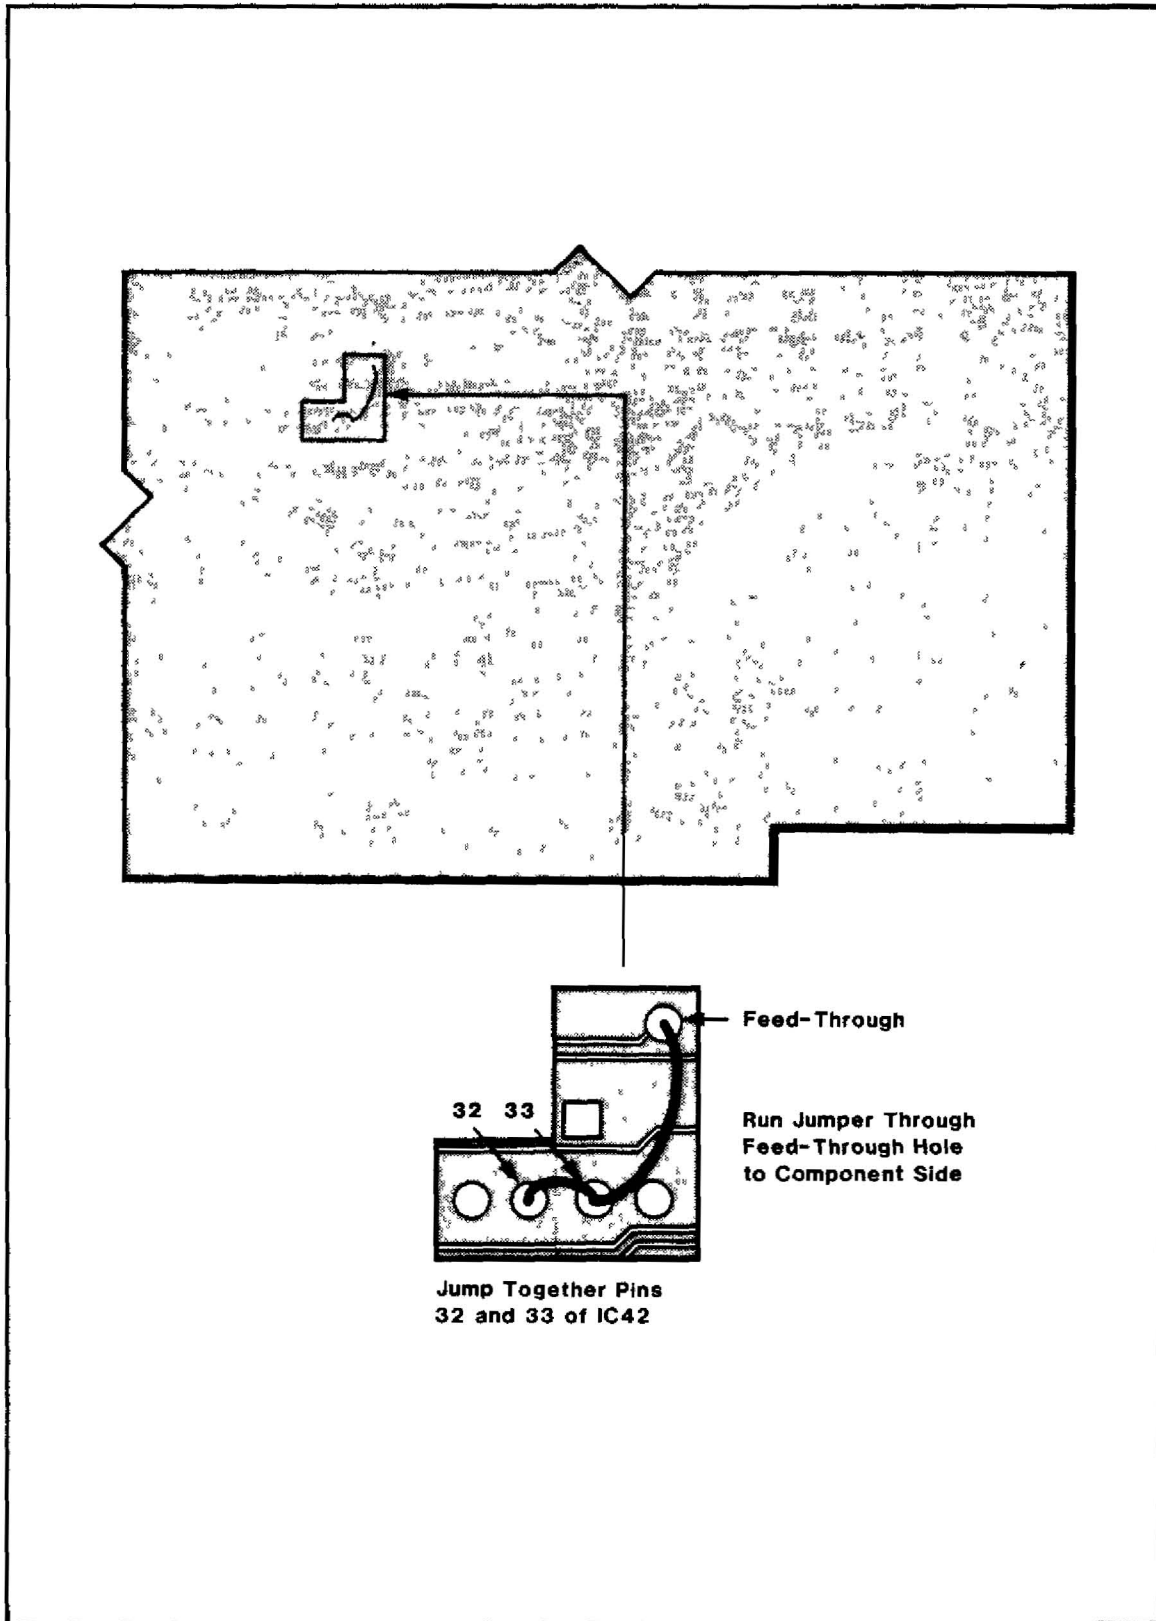

Figure C-1: WDI-II MODIFICATIONS (SOLDER SIDE)
2. Solder together pins 32 and 33 of IC42. Solder a 5-inch insulated jumper to IC42 pin 33, and run it through the feed-through hole just above pin 33 (figure C-1).